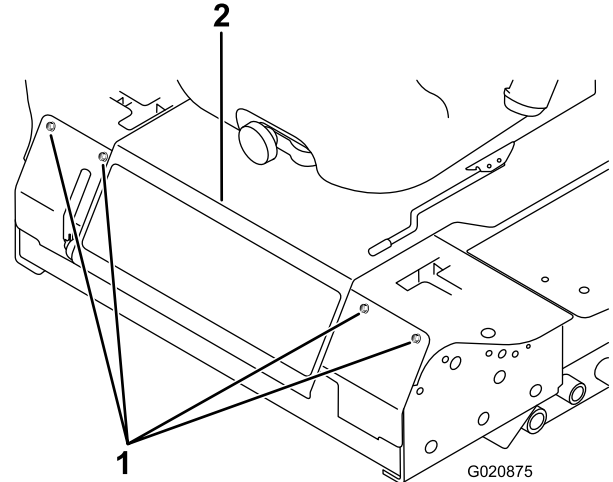

Figure 85
3. Remove the bolts securing the front panel and remove the panel (Figure 85).